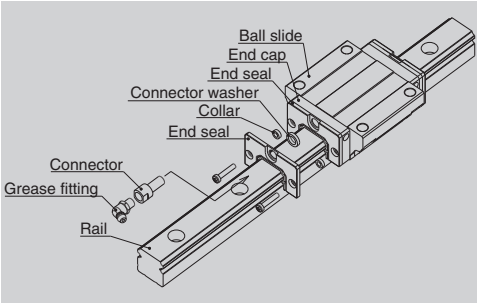

Fig. 6.2 Double seal
- Double-seal set: Can be installed to a completed standard item later on request. It comprises two end seals, a collar, and a screw for installation (Fig. 6.2). The product reference numbers of each series are described on the section of dust proof parts.
- When attaching a grease fitting to the end cap after the double seal is equipped, you require a connector shown in Figure 6.2. Please specify the connector set when ordering linear guides.